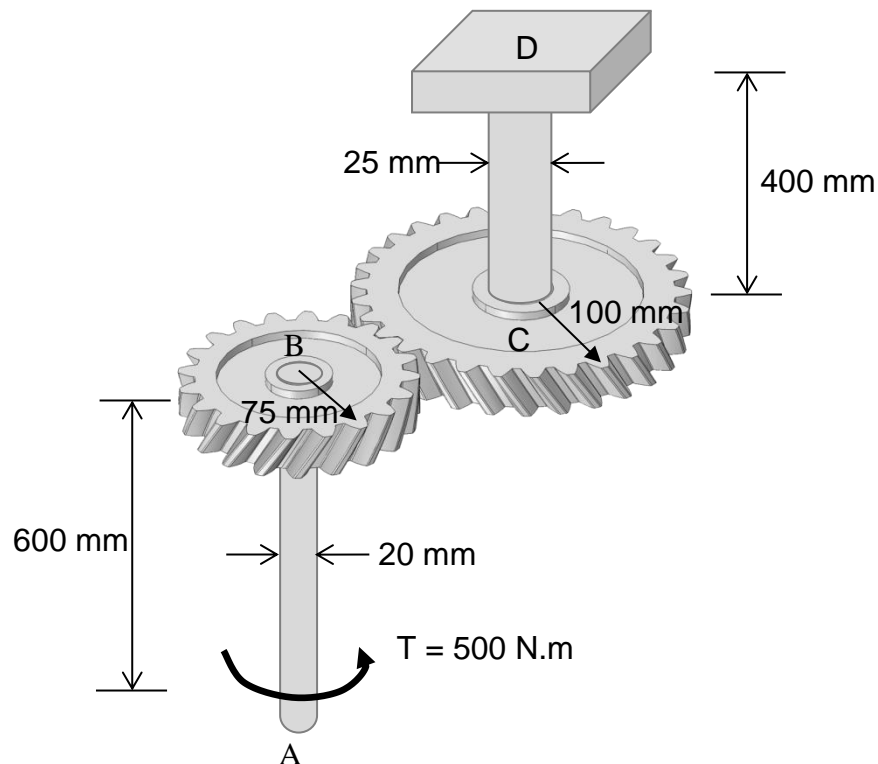

Figure 6/Rajah 6
- (b). Two solid steel shafts are connected by the gears as shown in **Figure 6**. The length and diameter of steel shafts AB and CD are shown in the figure. When a torque T of magnitude 500 N.m is applied at A, determine the maximum shear stress of steel shafts AB and CD and the angle of rotation at A if the shear modulus of elasticity is 78 GPa.